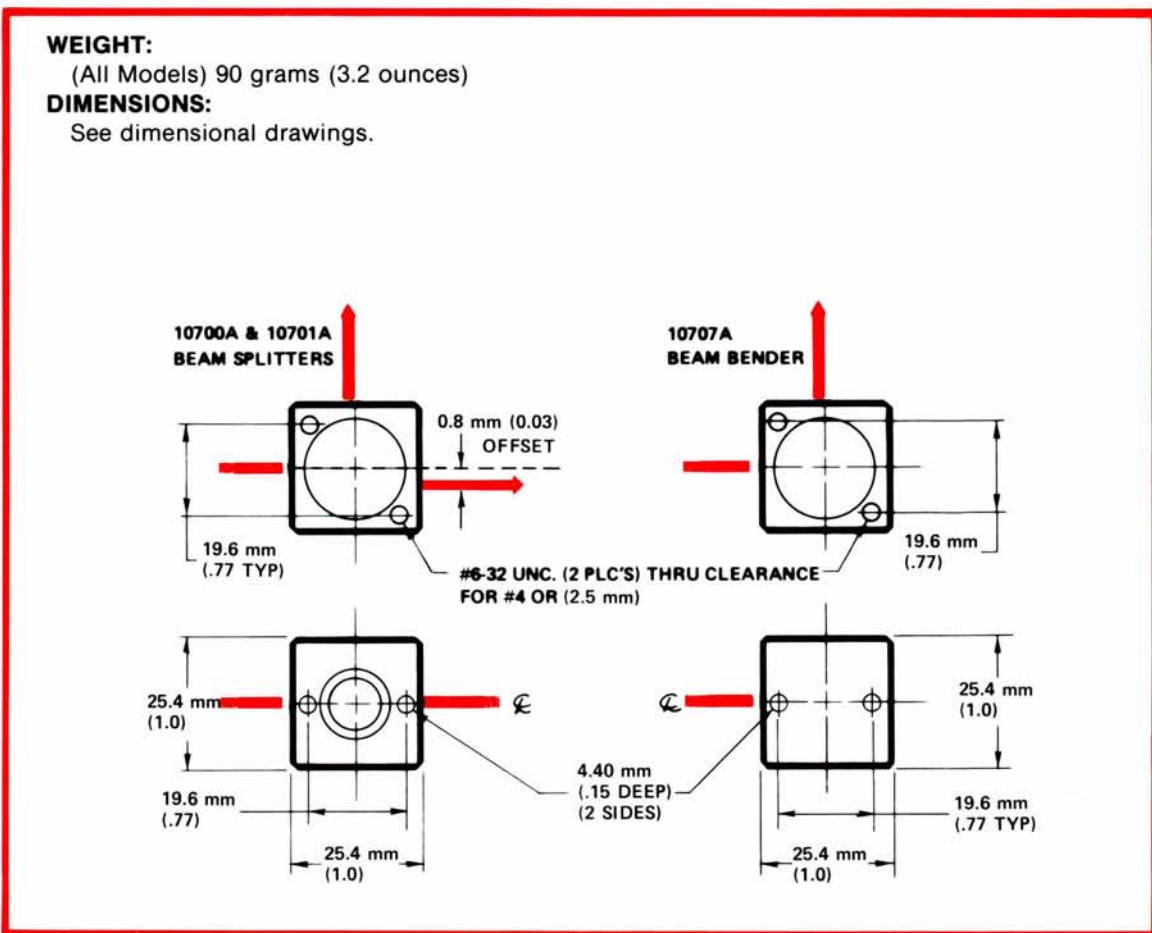

Figure 2-18. Splitting and Bending Optics (10700A, 10701A, and 10707A) Specifications
The thickness of the 10711A mount is such that the beam centerline corresponds to the lower part of the 10701A or 10706A interferometers. To be in line with the center of the interferometer a spacer 6.4 mm ( $\frac{1}{4}$  inch) thick has to be added to the laser head, or to be in line with the upper part, a 12.7 mm ( $\frac{1}{2}$  inch) spacer is needed. Also remember as the beam goes through a beam splitter, the exit beam is slightly offset downward (or to the side if the beam is bent in the horizontal axis) by 0.8 mm (.03 inch). See *Figure 2-18*.
- a. Splitting and Bending Optics (10700A, 10701A, and 10707A) Specifications, see *Figure 2-18*.